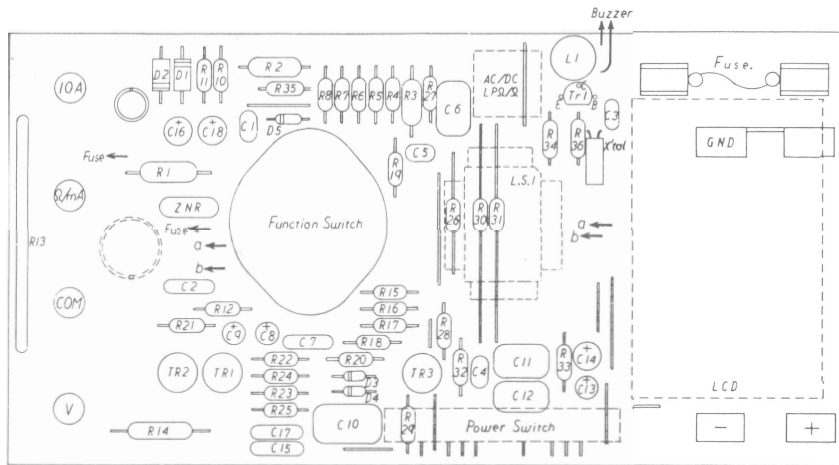

Figure 8. Parts Locator for Model DM77
4. With the DC calibrator at 170.0mV, the meter should read 170.0. Using a small flat-tipped screwdriver, adjust resistor TR3 (see Figure 8) as required.
5. With the DC calibrator at 1.700V, the meter should read between 1.699 and 1.701. Adjust resistor TR1 (see Figure 8) as required.
7. With the AC calibrator at 1.700V, the meter should read between 1.698 and 1.702. Adjust resistor TR2 (see Figure 8) as required.